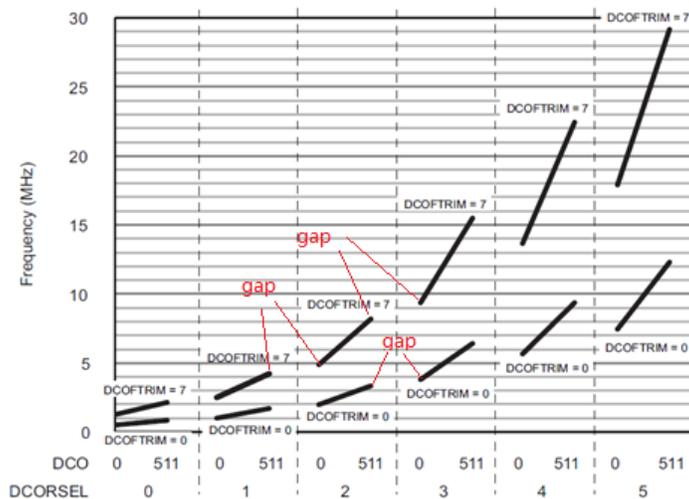

Figure 1-2. Typical DCO Frequency for MSP430FR2311
Please refer to the section 5.13.3 Clock Specifications in MSP430FR2xx/FR4xx device specific data sheet for the typical DCO frequencies with different DCO register settings. Figure 1-2 shows the typical DCO frequency for MSP430FR231x. It shows the frequency gap between two neighboring DCORSEL settings for the same DCOFTRIM configuration when DCO frequency range is less than 8 MHz (DCORSEL=3).
- For MSP430FR2xx/4xx DCO, there is frequency coverage gap across DCO taps for adjacent DCORSEL values and the same DCOFTRIM configuration. It is obviously observed in the Figure 1-2 when frequency range is less than 8 MHz.